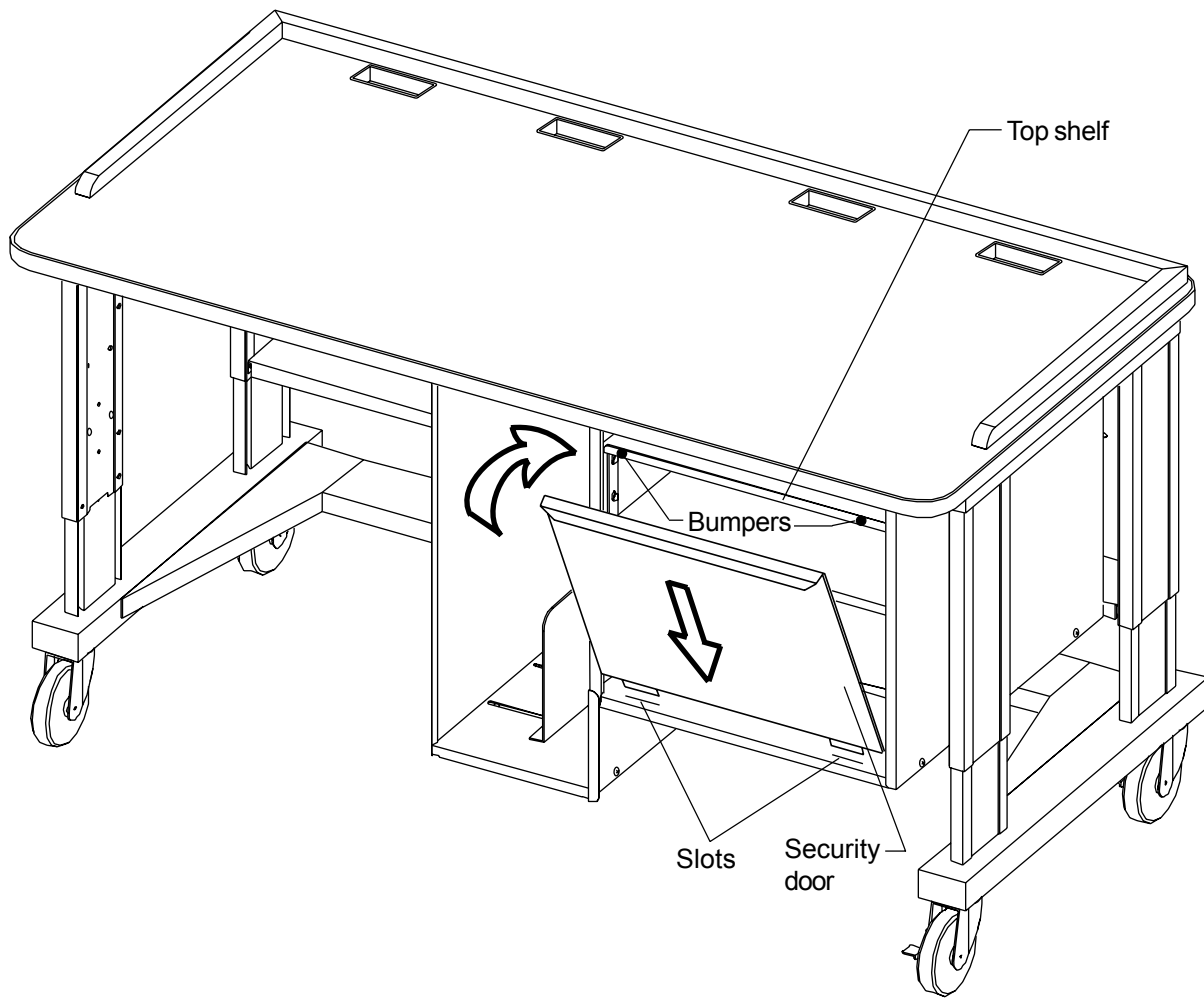
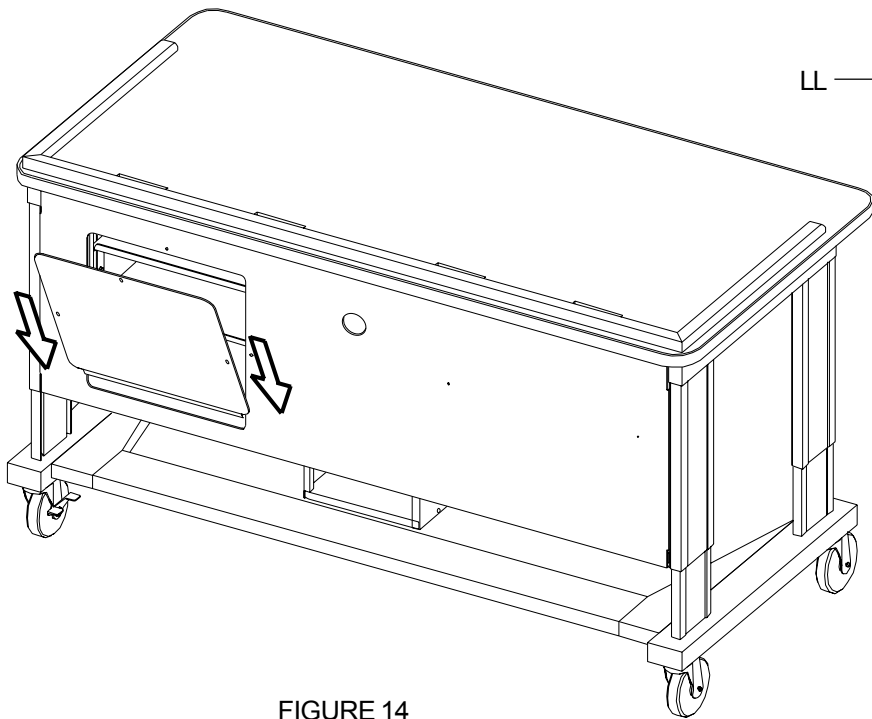

FIGURE 13
FIGURE 14
Attach security door at the front of the unit as shown in **Figure 13**. Take the security door and insert the two flanges into the slots in the bottom shelf. If not in use you can store the security door on the top shelf.
Attach access door from behind the unit as shown in **Figure 13**. **NOTE:** The access door is meant for easy access to wires/cables of your component pieces. It might be easier to position components on shelves and then attach access door using security screws (LL) as shown in **Figure 14**.